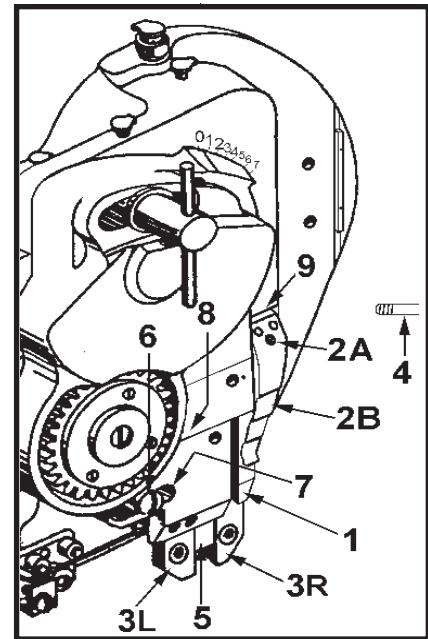

Figure 15-Removing and Replacing Gripper, Formers and Driver
6. Reinstall the cutter block (2) onto its holding plate (3). Be sure to position the cutter block (2) so that the cutter block adjusting screw head (9) engages in the first (left side) slot in the cutter block control slide (10). With the cutter block (2) correctly positioned replace and tighten cutter block holding screw (1).
7. Rotate the stitch head's pulley by hand and check that the movable cutter (6) operates freely. Check that cutter stroke is correct. If the movable cutter (6) has been resharpened or a new cutter has been installed the cutter stroke may need resetting, refer to Step 5-How to Set the Movable Cutter.
E. GRIPPER (See Figure 15)-Check for excessive wear on the edges of the gripper bar anvil (1), the surface upon which the staples are formed, usually evidenced by rounded corners on a formed staple. Also check for signs of wear on the surface of the gripper bar that contacts the gripper bar clamp piece spring (2) and for sufficient tension applied to the gripper bar (1) from the gripper bar clamp piece spring (2). If the clamp piece spring is overly worn or the spring tension is not sufficient the wire will slip while being held in the gripper, usually resulting with one-legged staple(s).
2. Unscrew the gripper spring screw (2) and remove the gripper spring (9) from the head.
3. Unscrew and remove the gripper pivot screw (4). This permits the gripper assembly (1) to be removed from the head.
4. When reinstalling the gripper assembly (1) be sure that the upper stud in the gripper bar clamp piece engages the slot in the gripper clamp piece control slide. Then replace and tighten the gripper pivot screw (4), the gripper spring (9) and the gripper spring screw (2).
F. FORMERS AND DRIVER (See Figure 15)-Check for wear in the grooves of the formers (3L) and (3R), usually evidenced by buckled staple legs. The driver (5) should be checked for broken tips or worn ends and/or sides. Some types of drivers are double-ended and can be reversed in the drive bar when one end is worn.